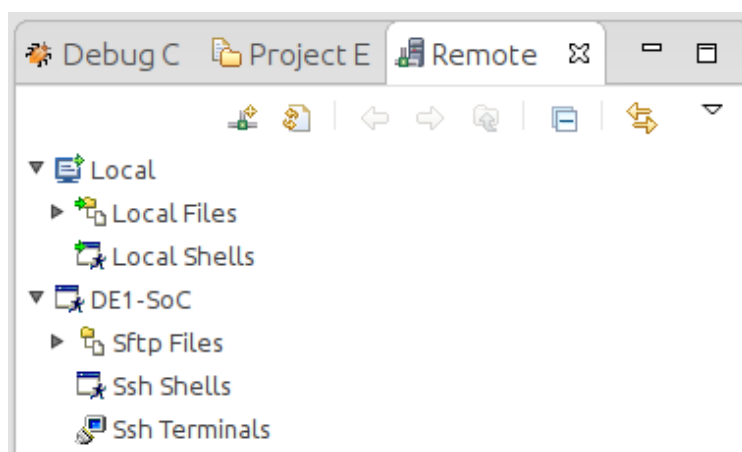

Figure 8-52. New SSH Connection In "Remote Systems" View
18. You should be able to see the remote system in *ARM DS-5*'s "Remote Systems" view, as shown in Figure 8-52.